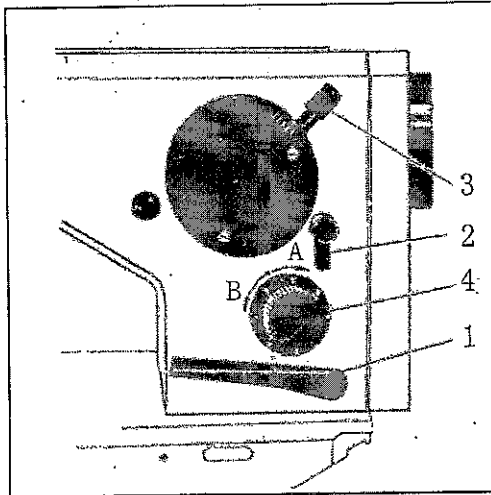
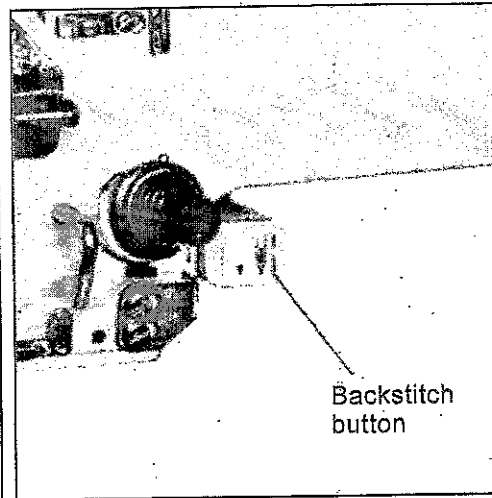

Fig.9
Fig.10
19. The stitch length and backstitch adjustment (Fig.9, Fig.10)
- 1) The stitch length can be adjusted by turning the knob (4) provided on the column of the machine arm, from 0 to 5mm. By turning it in the sense of the arrow "A", you increase the stitch length. By turning it in the sense of the arrow "B", you decrease it.
- 2) Depress the backstitch hand lever (1) can proceed backstitch.
- 3) Depress the backstitch button as shown in Fig.10 can proceed backstitch.
20. The stitch width adjustment (Fig.9)